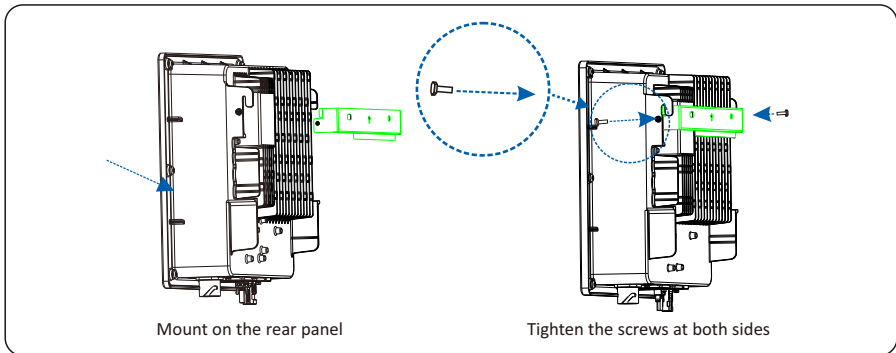

Figure 4.14 Securing the inverter
**Step 2** Mount the inverter on the rear panel and keep them aligned with each other, as shown in Figure 4.14.
**Step 3** Tighten the two hexagon screws at the both sides of the inverter to a torque of 1.2N.m and 3N.m respectively. Screw specs for GT1-3K-SS and GT1-5K-DS/GT1-6K-DS are M4 and M6 respectively, as shown in Figure 4.14.